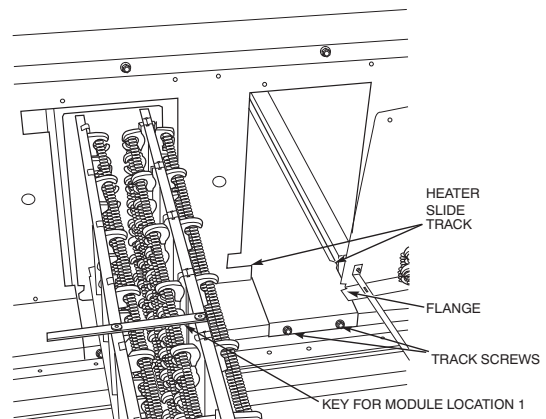

Fig. 47 - Typical Module Installation
Heater modules are installed in the compartment below the indoor (supply) fan outlet. Access is through the indoor access panel. Heater modules slide into the compartment on tracks along the bottom of the heater opening (See Fig. 47). Some heaters are "keyed" with a restrictor bar on the heater frame or restrictor plate on the back of the heater mounting plate to be able to go in only one slot. These keyed heaters have been designed and qualified to go only into the designated slot. Do not remove the key for the purpose of putting the heater in the wrong slot. Placing a keyed heater in the wrong slot could lead to overheating and unit damage from the heater not operating properly.
a. Connect RED wire provided with kit to Heater Relay (HR) and to L1 as shown.
c. Using the wire tie provided, fasten the RED wire to heater power wire harness near existing wire tie on heater module. This provides strain relief for the RED wire. (See Fig. 47).